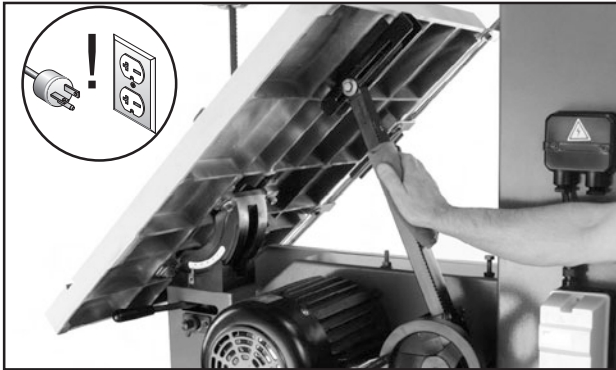

Figure 81. Example of lubricating table tilt rack and pinion assembly.
3. Move the table up to its maximum 45° angle and wipe (**Figure 81**) off all existing grease and sawdust buildup from the rack.